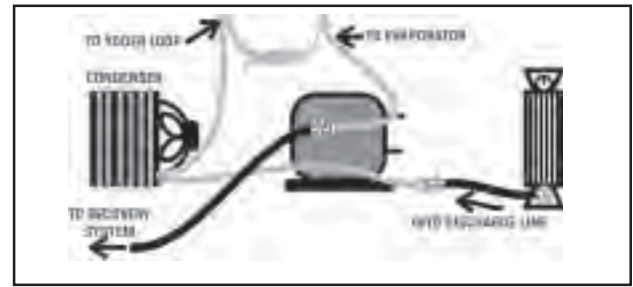
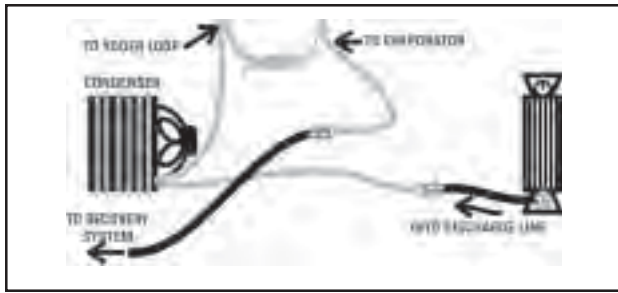
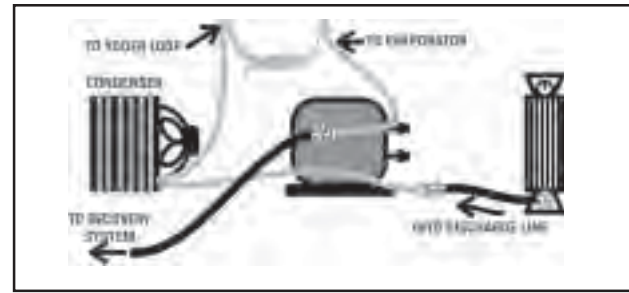

FIGURE 2
FIGURE 3
FIGURE 4
Score and break the suction line close enough to the old compressor to be able to reconnect it to the replacement compressor later. Attach a process tube adapter to the evaporator side of the suction line. Connect the hand valve and hose from the recovery equipment to this adapter (**figure 2**). Be certain that the pressure in the charging cylinder is about 30 p.s.i.g. above ambient temperature. Start the recovery unit and open the hand valve to the suction line. Release four (4) ounces of R134a from the charging cylinder into the system. It will take about 15 minutes for the refrigerant to pass through the condenser, yoder loop, drier, capillary tube, evaporator, suction line and into the recovery system. This 15 minutes time can be utilized to remove the old compressor (**figure 3**) and prepare the new compressor by mounting into place and wiring electrically. Remember to leave the plugs in place until brazing (**refer to figure 4**).